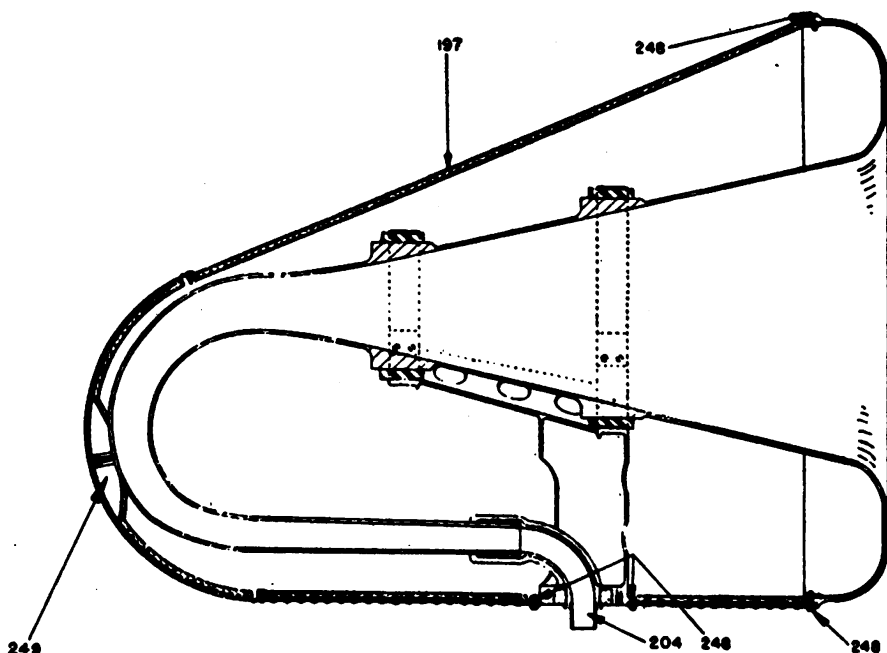

FIGURE 12.
30. If disassembly of horn assembly, figure 12, is required, remove screws 248 and casing 197.
32. Care should be taken to prevent any undue strain being placed on the elbow fitting 204, figure 12, at the end of the horn throat. Dur-
ing reassembling operations, inspection should be made prior to final assembly of horns and horn arms, to make certain that all elbow fittings, tubing, etc. are securely and completely covered with specified soundproofing material. When replacing a horn assembly, figure 12, a lead counterweight is required in each of the two upper horns but none is required in the lower horn. When a horn is reassembled it is recommended that casing points be coated with an acetate base cement or with shellac before replacing screws 248.